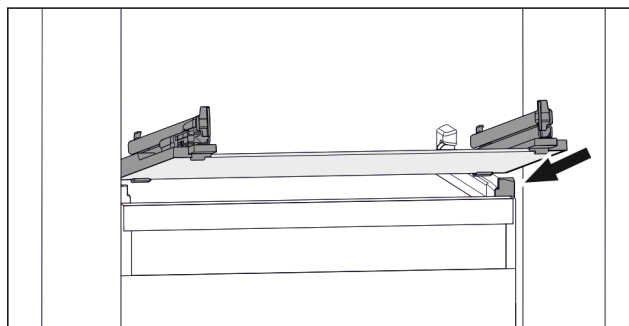

Fig. 53 Example illustration of glass shelf
- Position glass shelf at an angle behind the stoppers. (see Fig. 53)